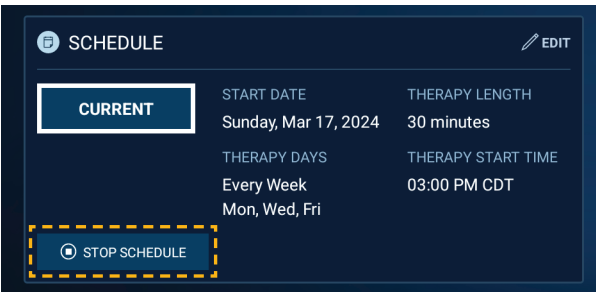

Figure 31. STOP SCHEDULE button located on dashboard
1. On the dashboard, tap **STOP SCHEDULE** (Figure 31).